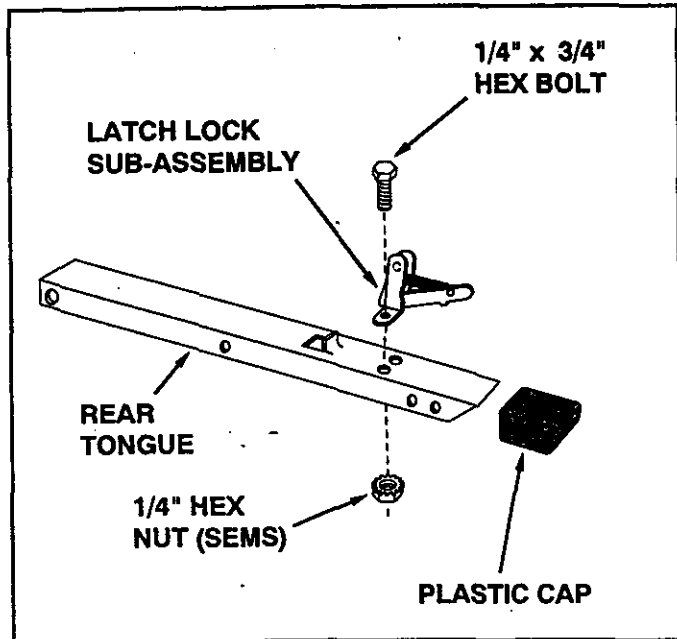

FIGURE 2
- Assemble the latch lock subassembly to the rear tongue using two 1/4" x 3/4" hex bolts and 1/4" (SEMS) type hex nuts. **Tighten.** See figure 2.
- Assemble the plastic cap to the front end of the rear tongue as shown in figure 2.